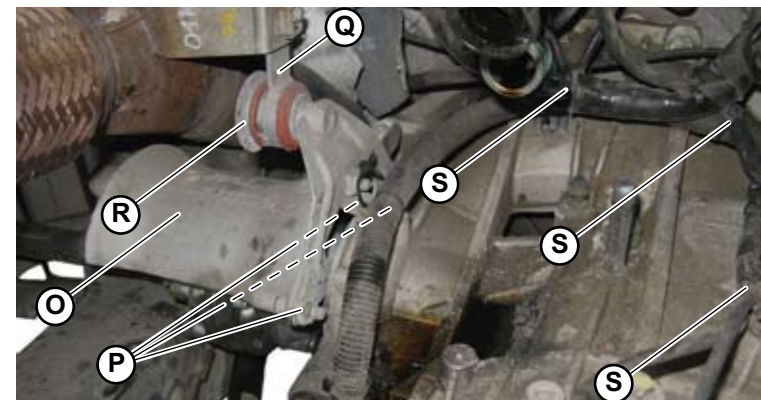

Fig.9
13. Position the joint bulkhead (**O-Fig.9**) on the left side between the axle shaft and the differential by tightening three screws (**P-Fig.9**).
14. Position the bracket (**Q-Fig.9**) and tighten the rear differential gearbox assembly support screw (**R-Fig.9**).
15. Secure three clamps (**S-Fig.9**).